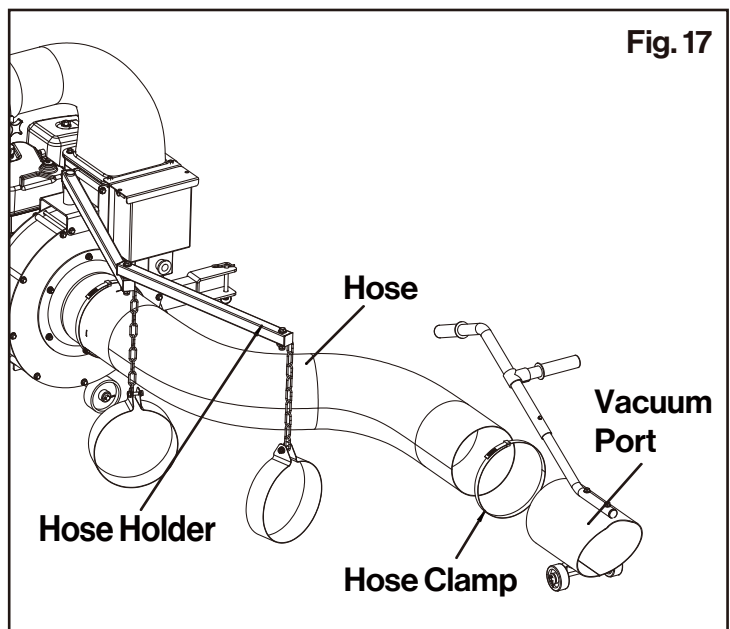

Fig. 17
- Insert the other end of the hose into the Vacuum Port and securely fasten it using a hose clamp. **(Fig.17)**